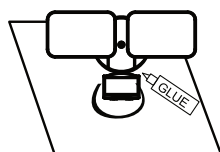

Fig. 6
7. After mounting the motion-activated light, apply a Silicone sealant compound (not included) around the perimeter of the cover plate. This will seal where the back of the cover plate meets the mounting surface. Sealant will prevent water from seeping into the junction box. (See Fig. 6)